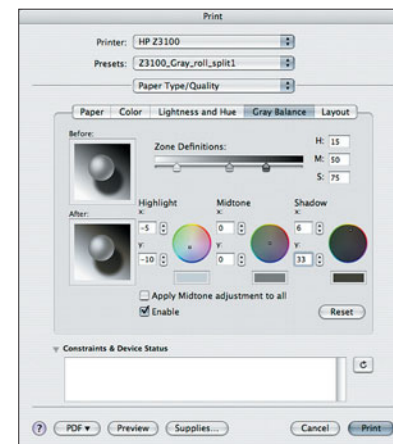

Figure 7.48 I have chosen a cool tint for the highlights and a warm tone for the shadows. Midtones will retain the natural hue of HP's Vivera black inks.
4. Adjust the tint controls in the HP printer driver for a custom split tone (see Figure 7.48).